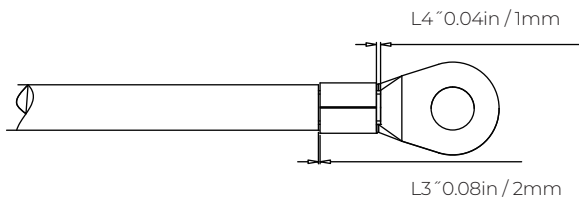

Fig. 7-4-2
Step 2: Insert the exposed core wires into the OT terminal and crimp them with a crimper, as shown in Fig. 7-4-2.